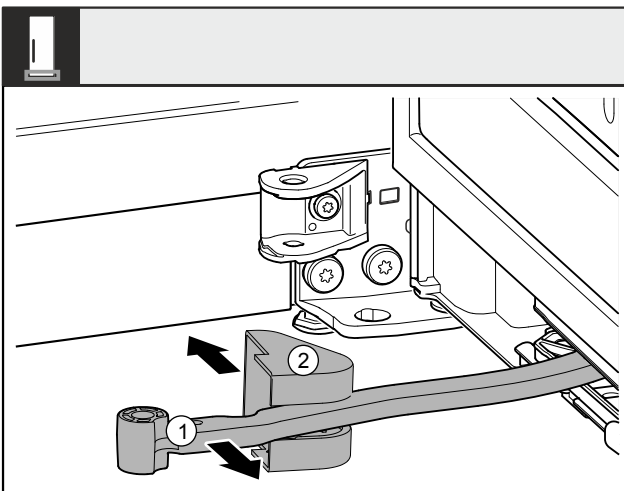

Fig. 8
- ▶ Turn the joint Fig. 8 (1) towards the door.
- ▶ Remove the swap bearing block cover Fig. 8 (2).